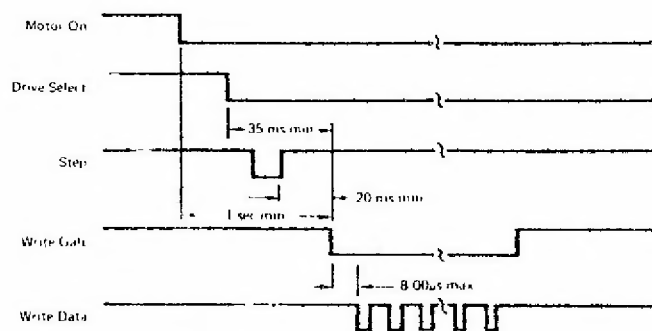

Figure 3-4 Write Initiate Timing
3.2.7 Write gate. When true, this input line permits writing of data. When inactive, it permits transmitting data to the controller. Allow a minimum of 1 msec after dropping write gate before expecting valid Read Data (see Figures 3-4 and 3-6).
3.2.8 Write data. This input, in conjunction with the write gate input, provides data to be written on the diskette. The frequency of the write oscillator should be held within 0.1% with a pulse width of a minimum of 0.2 μ sec and maximum of 3.5 μ sec. The frequency is dependent upon the encoding scheme used and the density option exercised (see Figures 3-4 and 3-5). It is recommended that the first leading edge of Write Data occurs no sooner than 4 μ sec and no later than 8 μ sec after leading edge of Write Gate. The same recommendation exists for the last Write Data and trailing edge of Write Gate.